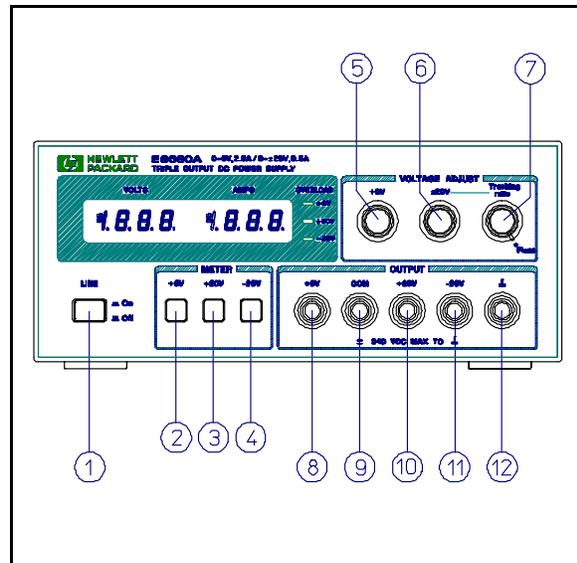

Figure 2. Front-Panel Controls and Indicators
The following steps describe the use of the front panel controls and indicators illustrated in Figure 2 and serve as a brief check that the supply is operational. Follow this checkout procedure or the more detailed performance test of service information section when the instrument is received and before it is connected to any load equipment.
This power supply can be operated individually or in parallel or series with another supply (see Parallel and Series Operation paragraphs). All output terminals are isolated from ground. The $\pm 20V$ and +6V outputs use a single common output terminal. This common (COM) terminal or any one of the other output terminals may be grounded to the chassis at the front panel ground terminal (⑫ in Figure 2), or all outputs may be left floating. Loads can be connected separately between each of the 0 to $\pm 20V$ output terminals and the COM terminal, or between the -20V and the +20V terminals for a 0 to 40V output. Each output voltage or current can be quickly selected for monitoring with the push-button meter switches. To moni-